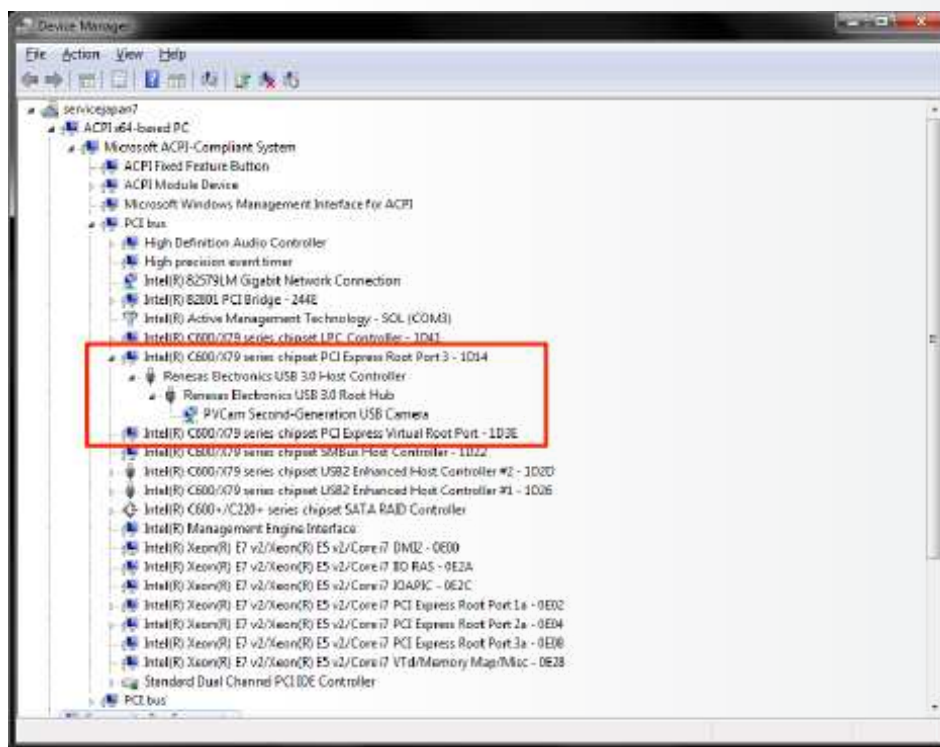

Figure 2. Photometrics USB3 camera is the only device on its USB Root Hub.
should be connected to a USB 3.0 port. It should also be the only device on its USB root hub controller (see Figure 2 below). Please see the following section on how to select the appropriate USB port for optimum camera performance. This ensures the maximum bus bandwidth is available to the camera for data transfers. USB 3.0 ports are often (but not always) identifiable by a blue internal socket or the “SuperSpeed” (or just “SS”) USB logo.
3. According to Figure 2, find the USB host controllers, expand them, and check whether your camera is the only device connected to the Root Hub.